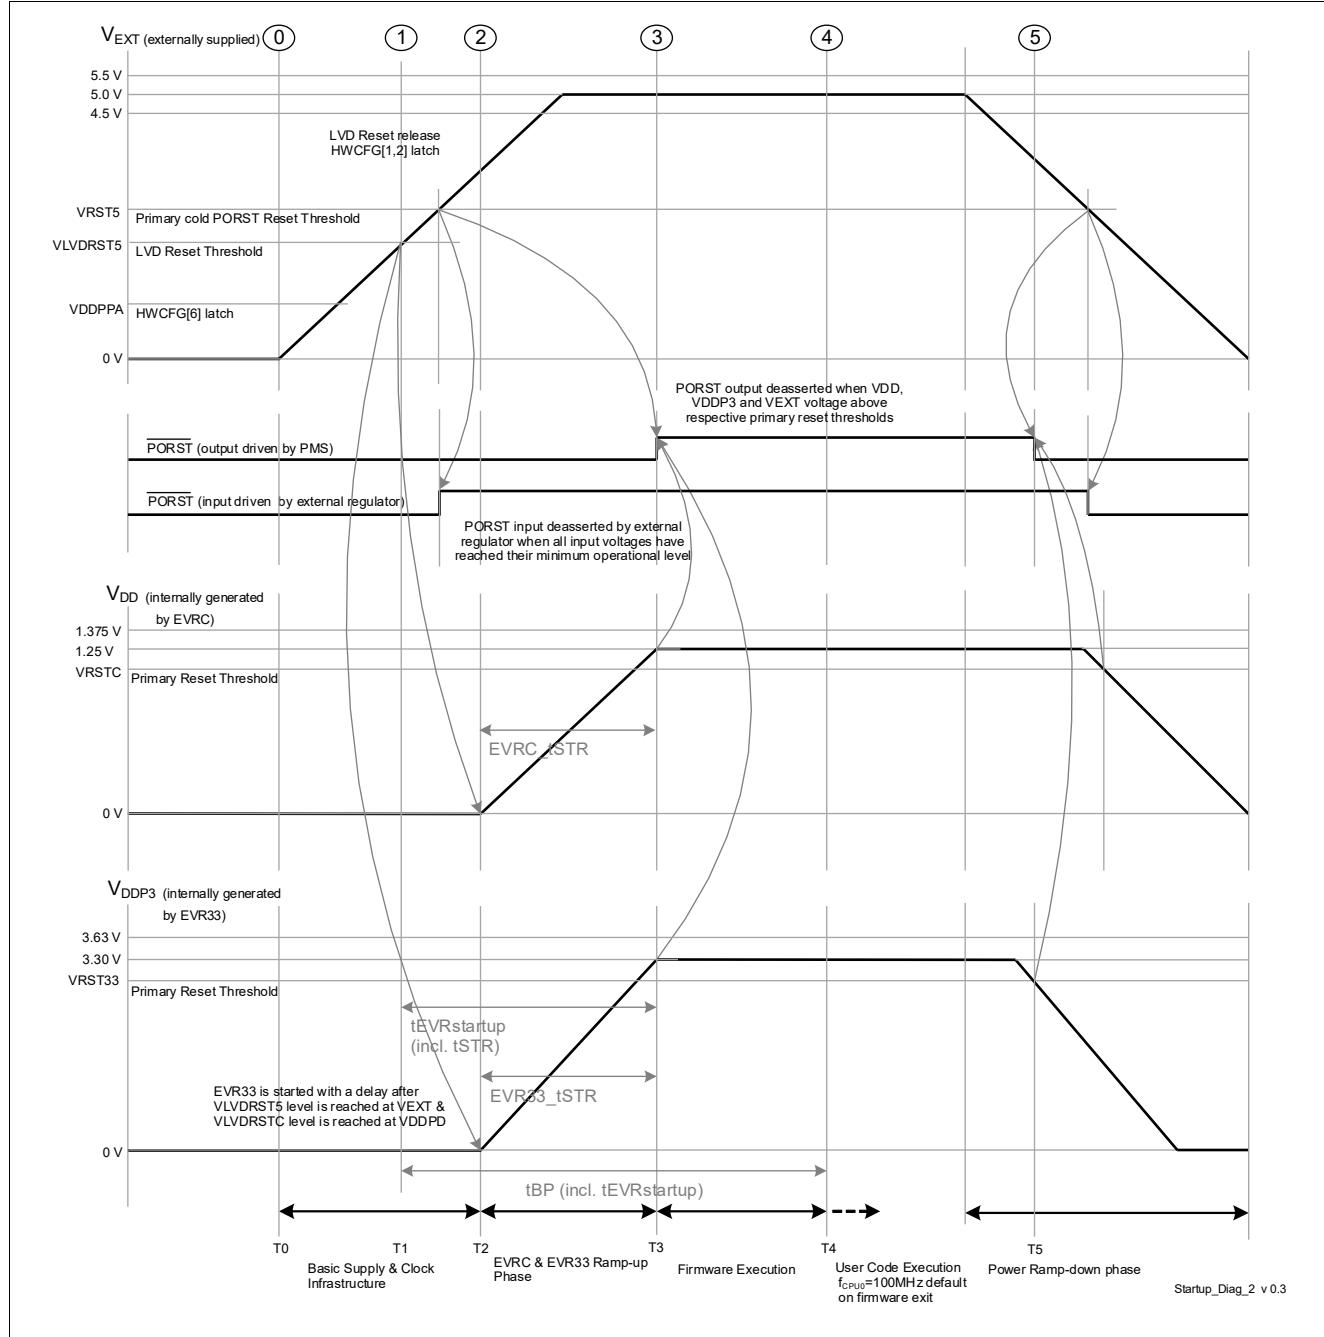

Figure 3-3 Single Supply mode (a) - VEXT (5 V) single supply
- The power sequence as shown in **Figure 3-3** is enumerated below